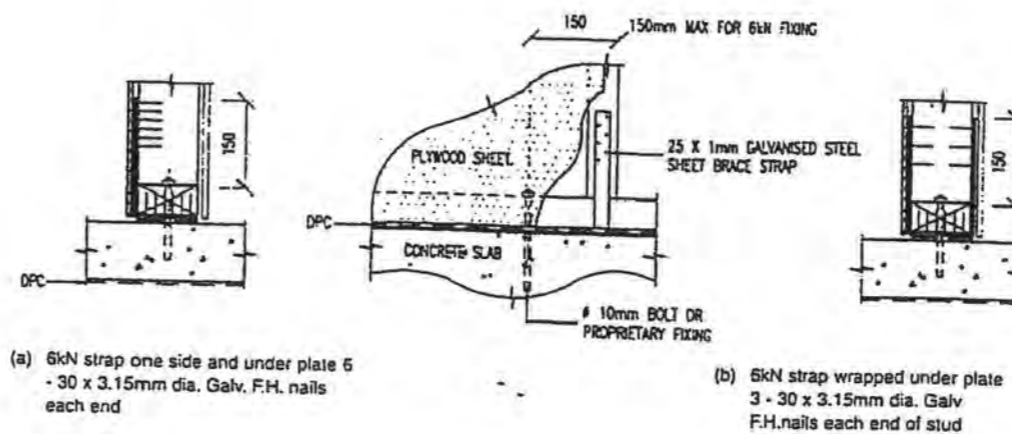

Figure 2
- Figure 2(a) or (b) for concrete floors.